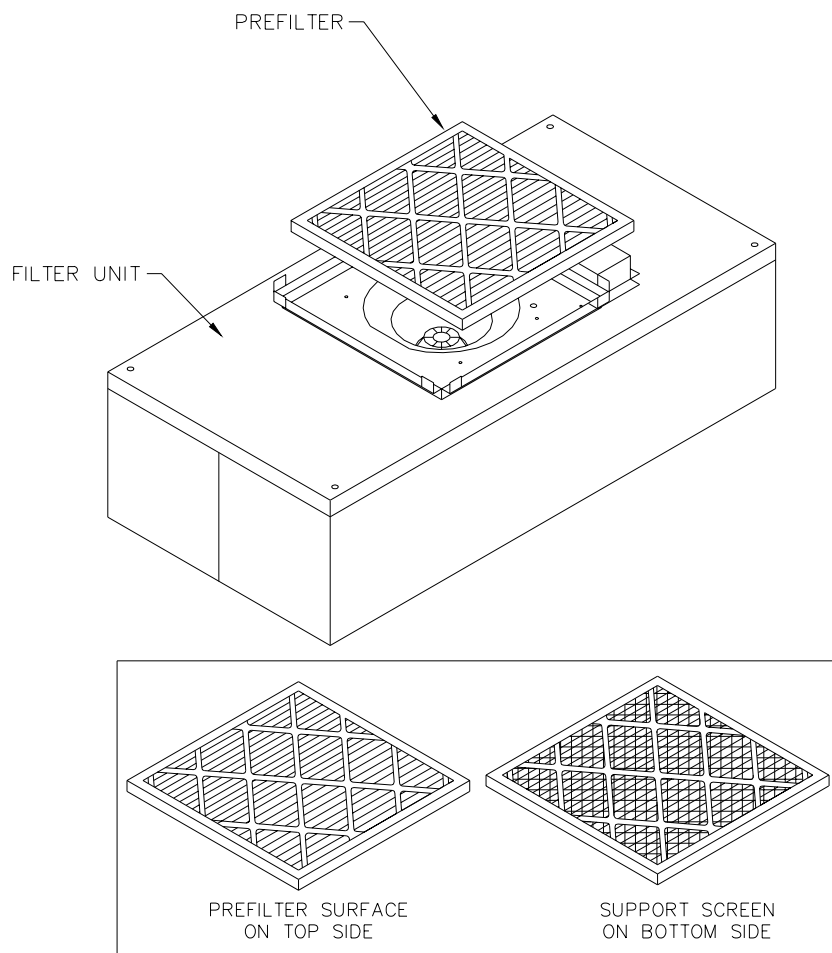

Figure 2
Step 2. Lift and remove the prefilter off the prefilter frame.(see Figure 2)